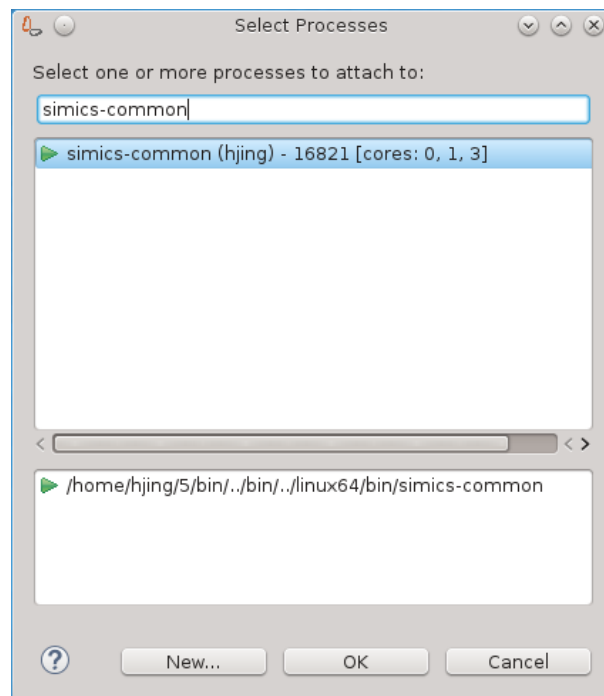

Figure 4.34: *Select Processes* dialog
- (e) you will see a *Select Processes* dialog to let you select a process to attach to as shown in Figure 4.34, find the process called *simics-common* and the same pid with last step, and press OK.